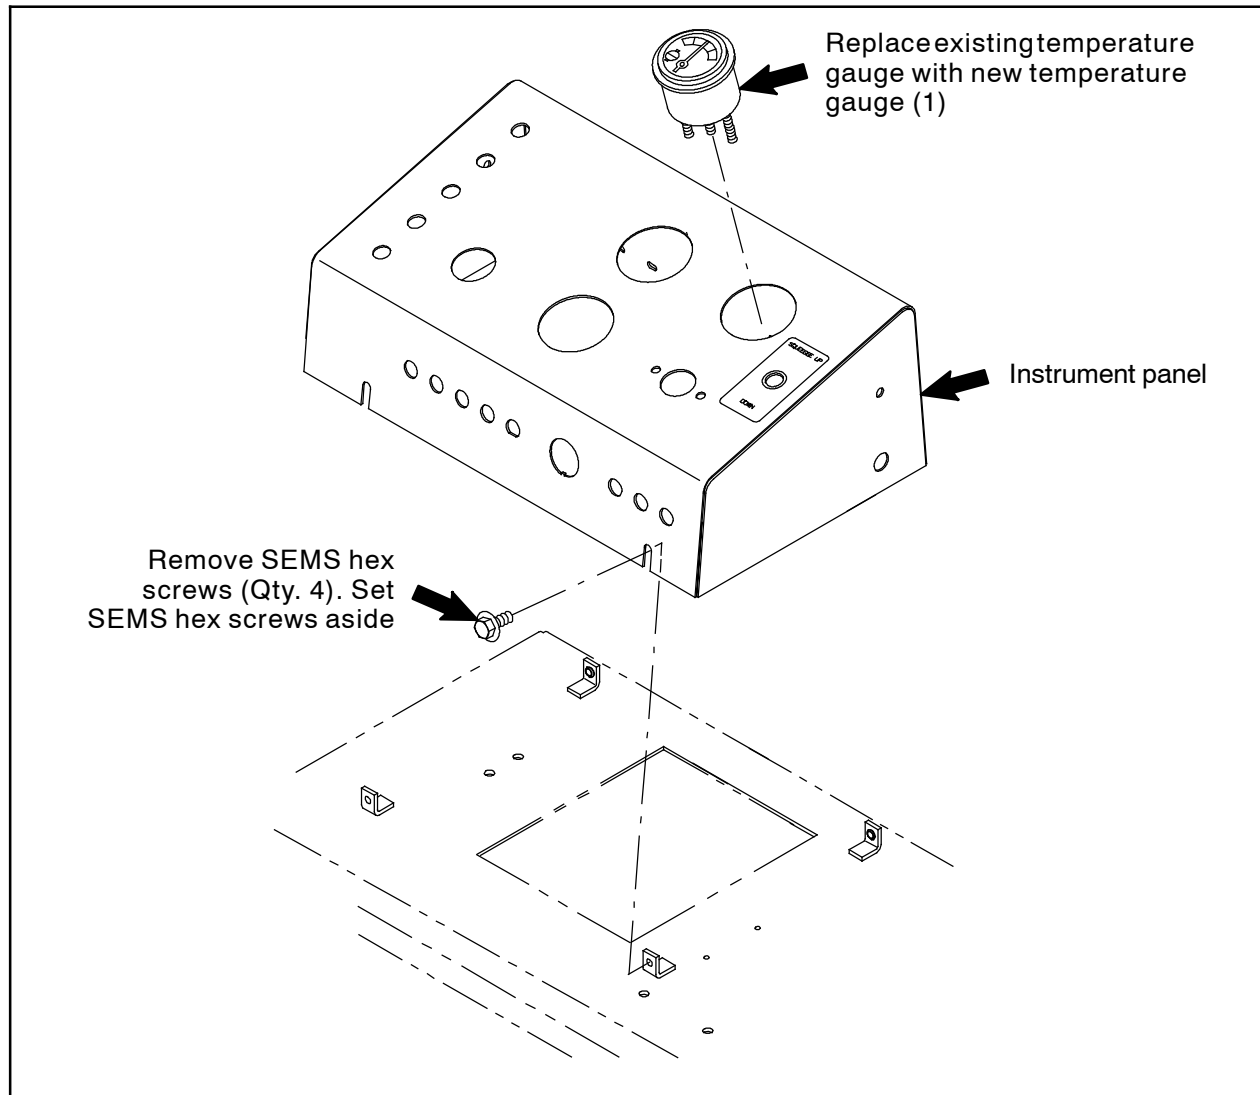

FIG. 1
1. Remove the hardware securing the instrument panel to the machine. Set the hardware aside. (Fig. 1)
2. Carefully lift the instrument panel from the machine and position the panel so the interior can be easily accessed. **Do Not** break any wire / cable connections when removing the instrument panel from the machine. (Fig. 1)
3. Disconnect the main wire harness from the temperature gauge and remove the temperature gauge from the instrument panel. Discard the removed temperature gauge. (Fig. 1)
4. Insert the new temperature gauge (1) into the instrument panel. (Fig. 1)
5. Connect the main wire harness to the temperature gauge (1). (Fig. 1)
6. Reinstall the instrument panel onto the machine. (Fig. 1)